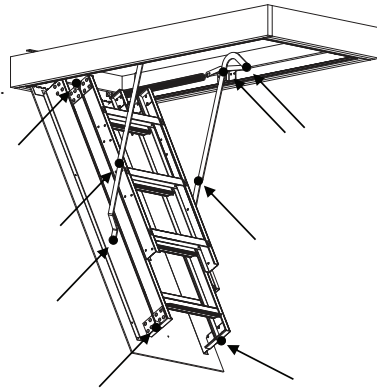

Figure 24 Lubrication points
3. Periodically lubricate (spray silicon recommended) pivot points of the right and left folding arm mechanisms (power arm assemblies) and every hinge to provide smooth, long-lasting operation. Follow arrows in Figure 24.